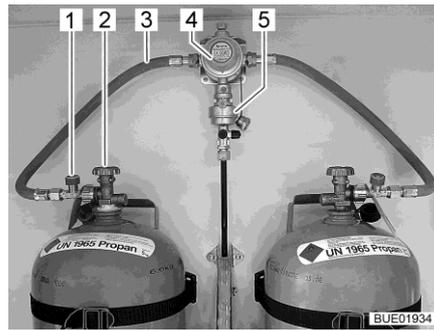
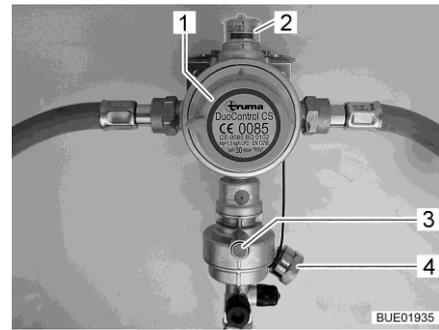

Fig. 83 Gas bottles with DuoControl
Fig. 84 DuoControl regulating system
The DuoControl regulating system consists of a reversing valve (Fig. 83,4) and a crash sensor (Fig. 83,5). The DuoControl regulating system is installed between the gas tubes (Fig. 83,3) with hose break guard (Fig. 83,1). The knob (Fig. 84,1) on the reversing valve is used to select which of the gas bottles is to be used as primary bottle and which is to be used as reserve bottle.
The status of the gas supply is indicated in the inspection window (Fig. 84,2):
The operation with only one gas bottle is allowed but in this case the open connection must be closed with a blind cover (Fig. 84,4).
The crash sensor blocks the gas supply in the event of a significant impact (e.g. accident). The crash sensor is put into operation with the green reset button (Fig. 84,3).
The hose break guard (Fig. 83,1) blocks the gas flow if the connected hose breaks. The hose break guard must be activated by pressing the green button. The green button must be pressed until the pressure in the hose has built up.
**Operating unit** At the operating unit (Fig. 85), the gas supply via the DuoControl regulating system is switched on and off. The regulator taps (Fig. 83,2) of the gas bottles and the gas isolator taps of the devices must be opened manually. To activate the hose break guard, see section "Hose break guard".
- Use the knob (Fig. 84,1) on the reversing valve to select the gas bottle which is to be the primary source of gas (primary bottle). Always turn the knob as far as it will go.
- Open regulator taps (Fig. 83,2) on the gas bottles.
- Press the green button of the hose break guard (Fig. 83,1). The green marking is shown in the inspection window (Fig. 84,2).
- Close regulator taps (Fig. 83,2) on the gas bottles.
If the green indicator lamp (Fig. 85,6) goes out during operation and the red indicator lamp (Fig. 85,5) lights up, the primary bottle is empty and must be changed. The red marking is shown in the inspection window (Fig. 84,2). The reserve bottle continues supplying the gas appliances with gas.
- Turn the knob (Fig. 84,1) a half turn in the direction of the currently used gas bottle. In this way, this gas bottle is the primary bottle now, and the empty gas bottle becomes the reserve bottle. The marking in the inspection window (Fig. 84,2) changes from red to green.
- Close regulator tap (Fig. 83,2) on the empty gas bottle. Pay attention to the direction of the arrow.
- Press the green button of the hose break guard (Fig. 83,1).